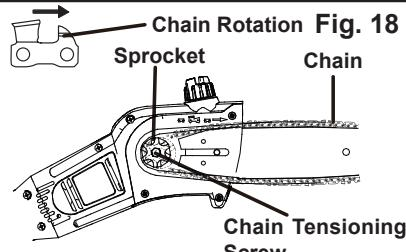

Fig. 18
- Stop the motor and disconnect from power supply before setting the chain tension. Make sure the guide bar nut is loose enough to finger tighten, turn the chain tensioning screw (see figure 18) clockwise to tension the chain. Refer to Replacing the Bar and chain for additional information.